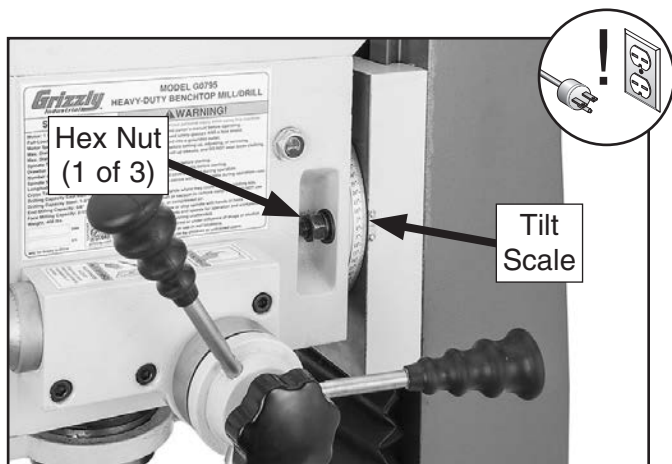

Figure 17. Hex nut (one on each side of headstock).
2. Loosen the three hex nuts (see **Figures 17–18**) that lock headstock tilt in position.
3. Using tilt scale shown in **Figure 17** as a guide, push or pull headstock to swivel it into desired position, then retighten the three hex nuts to secure it.